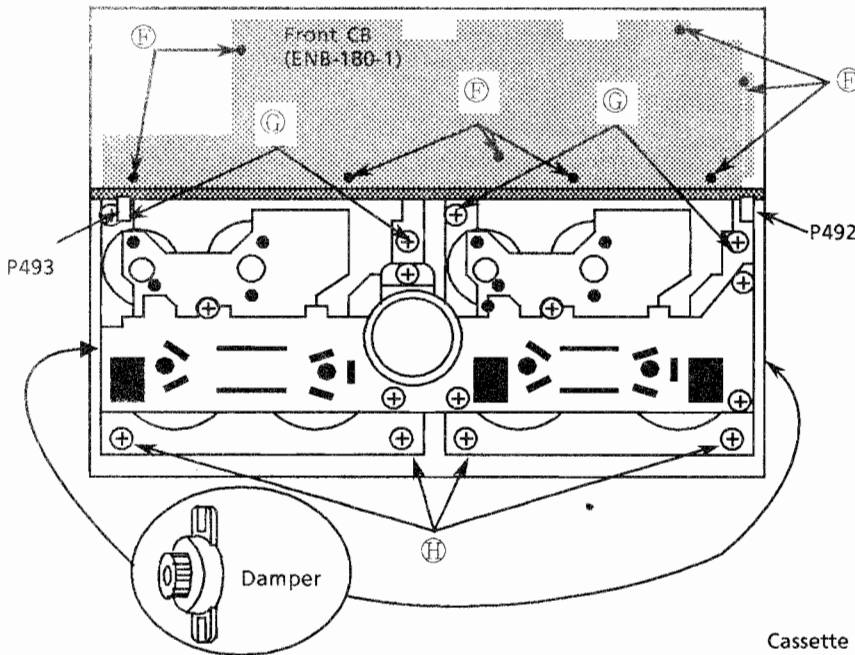

Figure5 Back of the front panel assembly
3. Disconnect the connectors P492, P493 on the deck control circuit board (Figure 5).